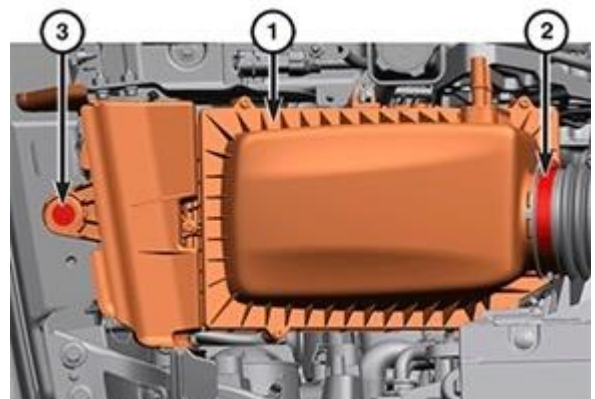

Figure 9 – Air Cleaner
9. Loosen the clean air hose band clamp (2) (Figure 9).
10. Remove the bolt (3) (Figure 9).
11. Disengaging the air cleaner body (1) from the two lower rubber grommets and from the clean air hose (Figure 9).